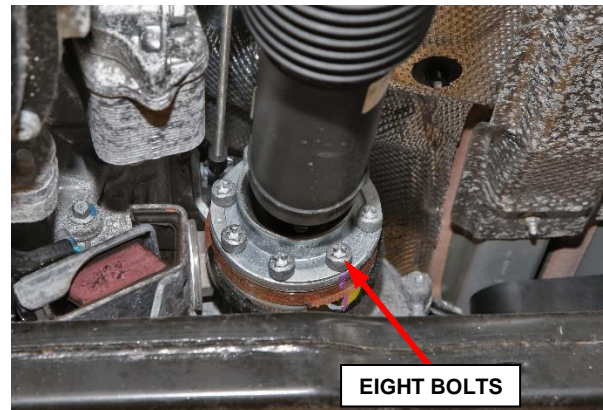

Figure 12 – Transfer Case Flange Front
14. Remove and **DISCARD** the front driveshaft to transfer case bolts (Figure 12).